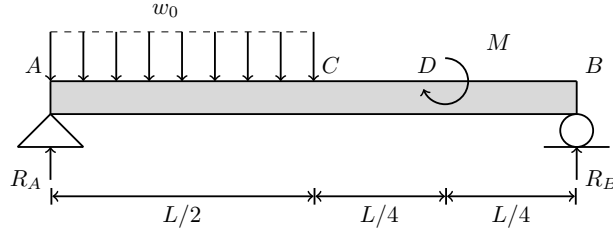

Figure 11
6. Consider a simply supported beam of length  $L$  subjected to applied load as shown in Fig. 11. Calculate the reaction forces, shear force, and bending moment at any point along the beam.